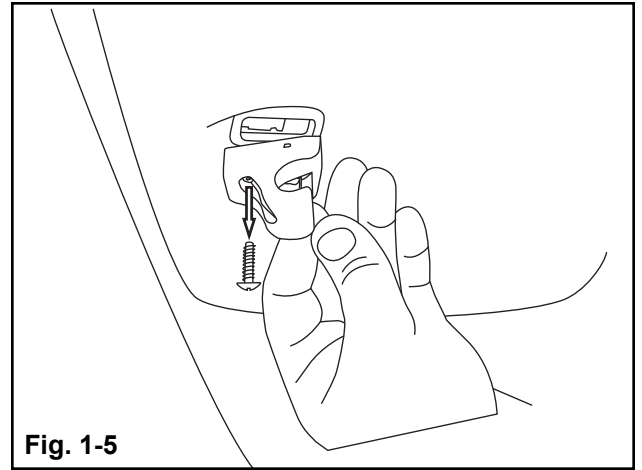

Fig. 1-5
- a) Remove screw in sun visor hook. Sun visor may also be removed if more flex in headliner is desired. **(Fig. 1-5)**